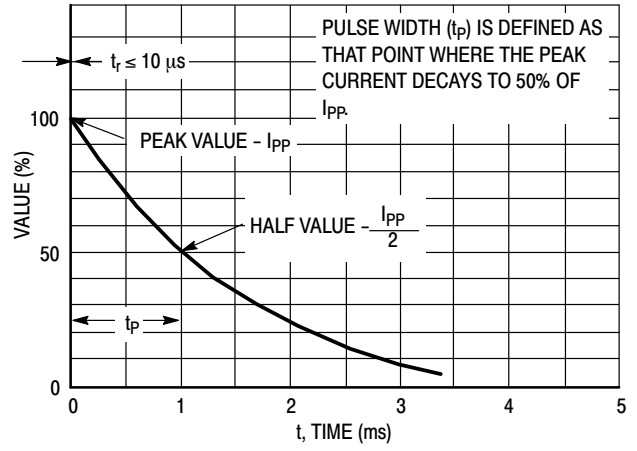
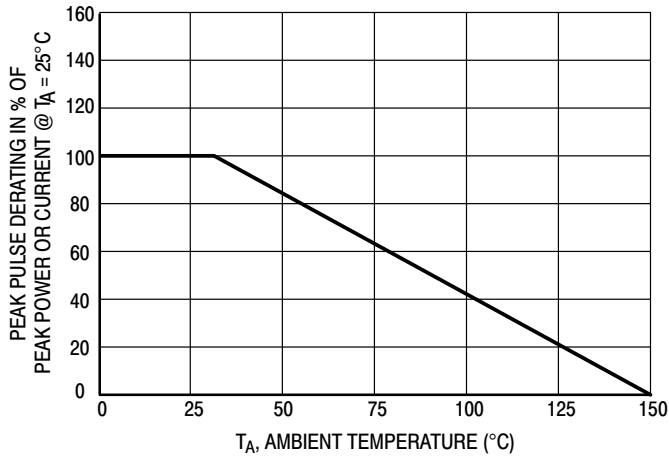

Figure 2. Pulse Waveform
Figure 3. Pulse Derating Curve
- Surge current waveform per Figure 2 and derate per Figure 3 of the General Data - 600 Watt at the beginning of this group.